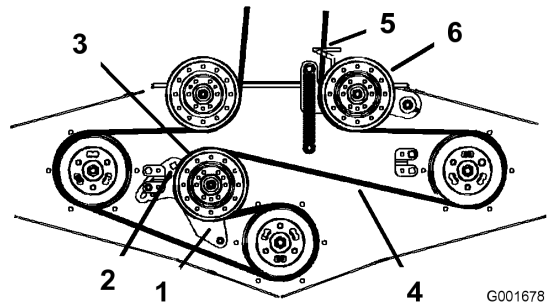

Figure 49
4. Loosen the fixed idler arm and adjust it to relieve the belt tension on the fixed idler pulley (Figure 49).
6. Install the new belt through the belt guide and on the pulleys (Figure 49).